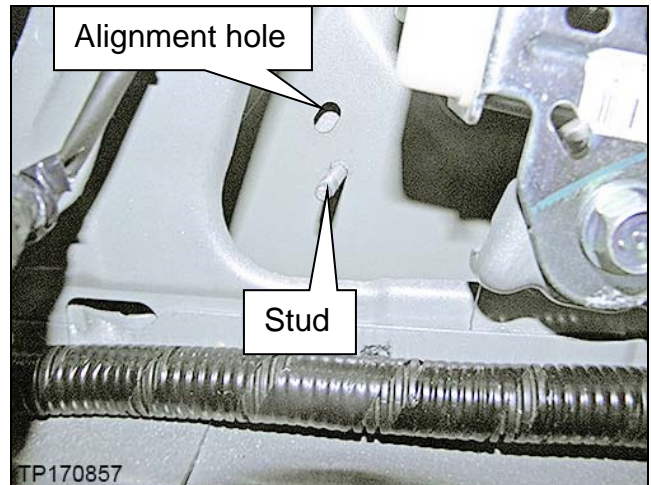

Figure 40
33. Slide the satellite sensor onto its stud and align with the alignment hole (see Figures 40 and 41).